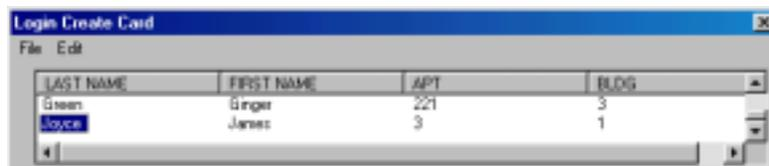

Figure 4.12 Selecting a User to be Deleted
2. Select the user to be deleted by clicking on their name in the User List Window (Figure 4.12).